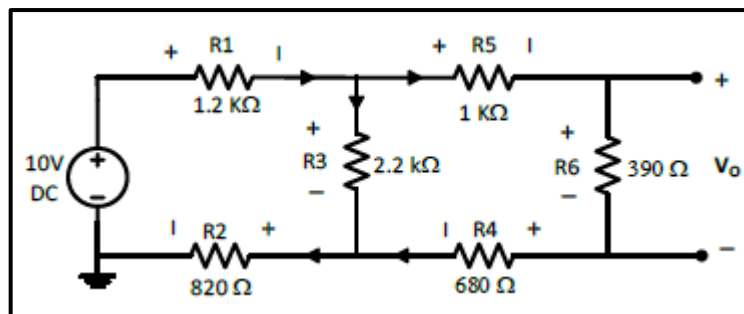
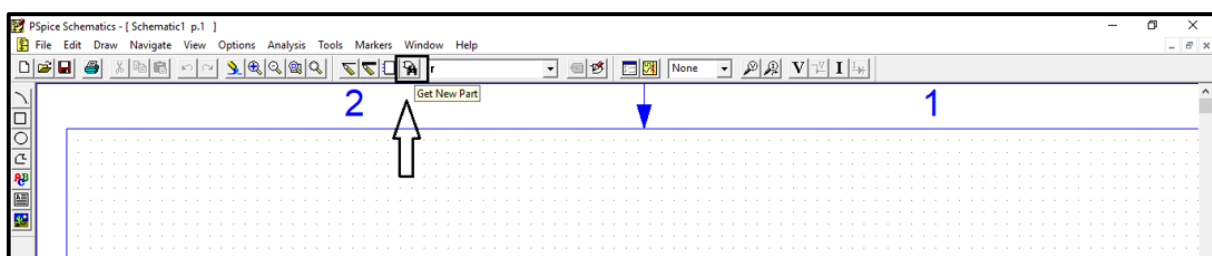

Figure.3
Figure.4
- To build the circuit of figure.3 on PSPICE, click on “get new part” icon shown in figure.4: